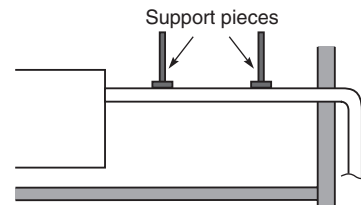

Fig. 2-118
- Do not apply force to the piping on the unit side when connecting the drain pipe. The pipe should not be allowed to hang unsupported from its connection to the unit. Fasten the pipe to a wall, frame, or other support as close to the unit as possible. (Fig. 2-118)